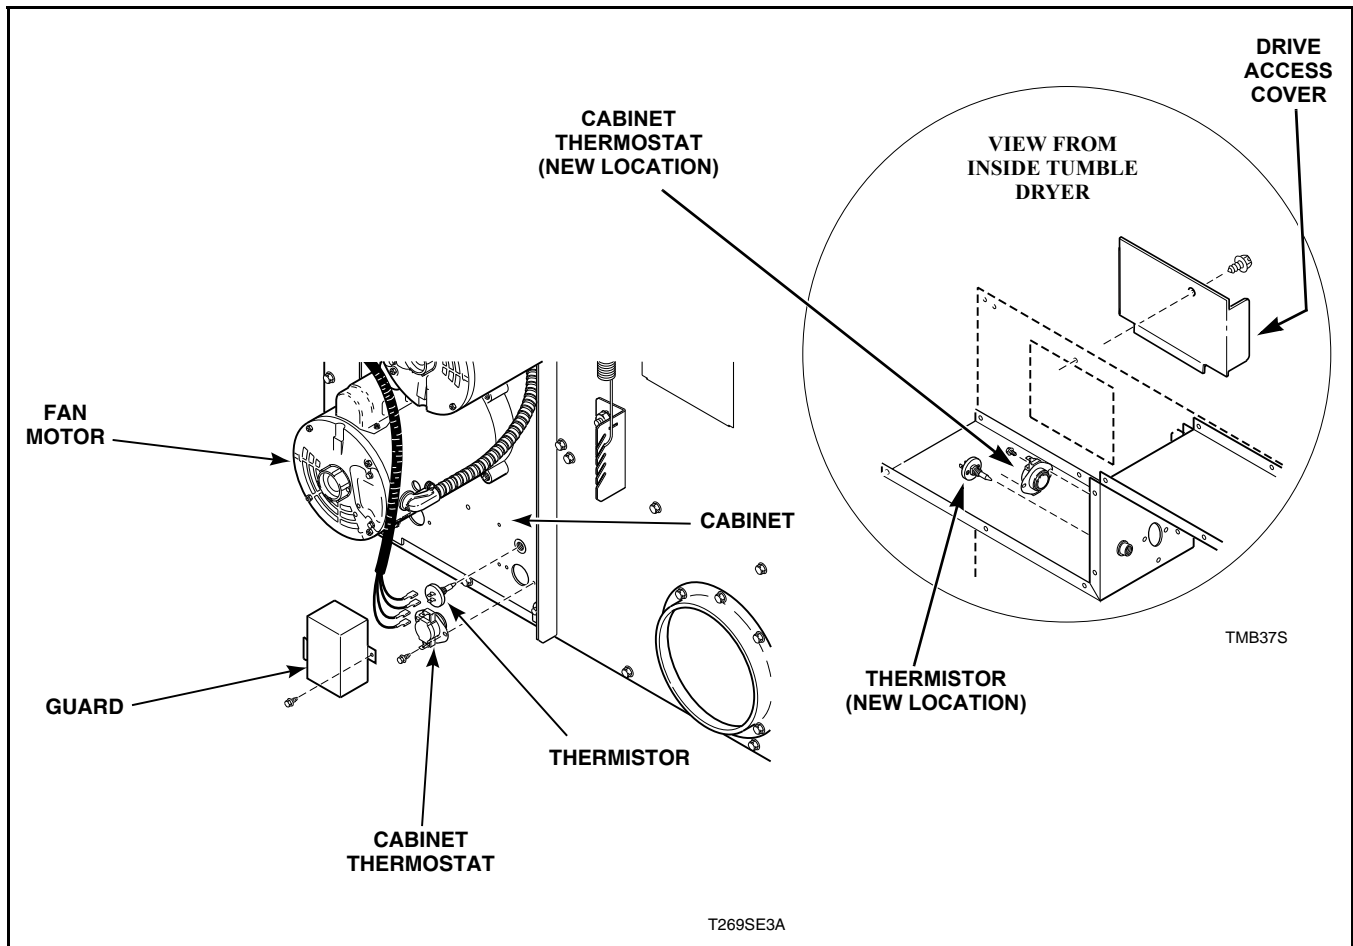

Figure 31
Refer to *Figure 31*.
NOTE: Thermistor and cabinet thermostat are located inside cabinet in models after Serial No. 9807017296. Refer to *Figure 31*.
- c. Remove two screws on drive access cover. Remove door. Refer to *Figure 31*.